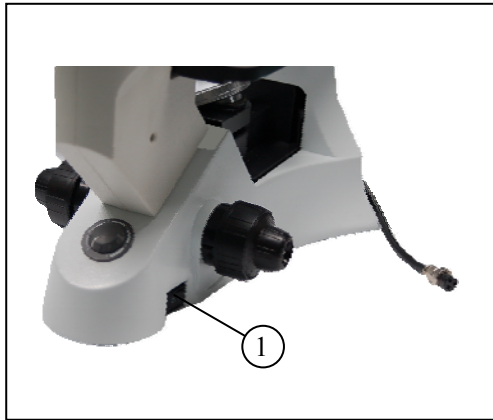

Figure 16
4-1-1 Turning on the lamp (fig.16)
Connect the power, turn on the main switch①(shown on the fig.16)which on the bottom side of the base to “—”(on).